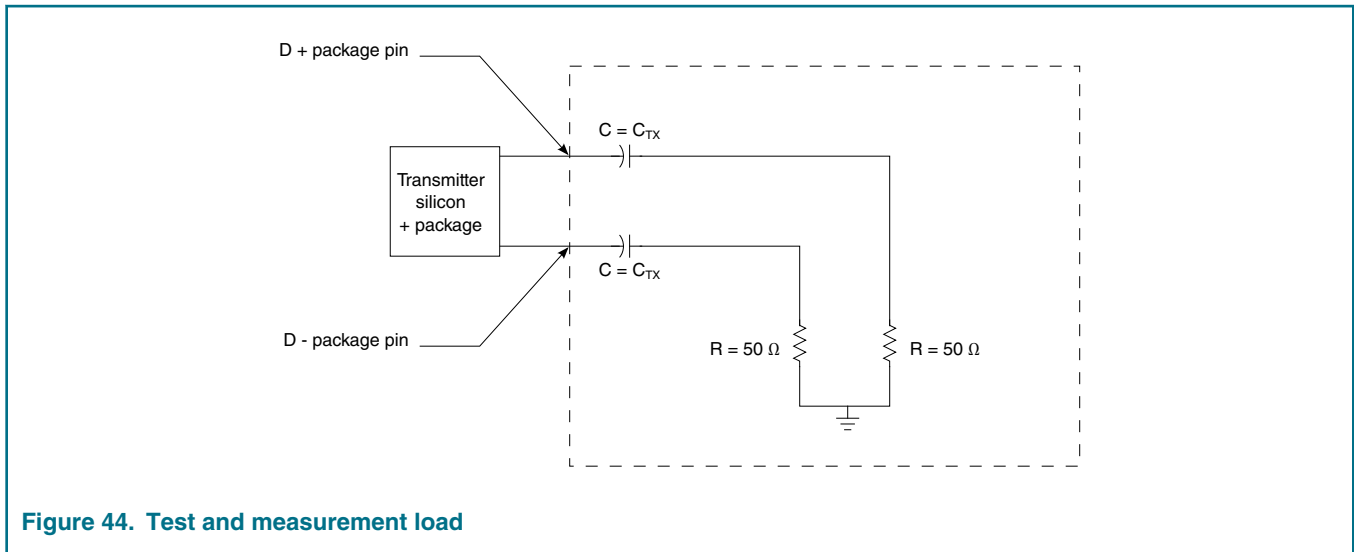

Figure 44. Test and measurement load
5. See Figure 44. on page 133.
<p>1. Each UI is 200 ps ± 300 ppm. UI does not account for spread-spectrum clock dictated variations.</p> <p>2. The maximum transmitter jitter can be derived as $T_{TX-MAX-JITTER} = 1 - T_{TX-EYE} = 0.25$ UI. Does not include spread-spectrum or REFCLK jitter. Includes devices random jitter at 10^{-12}.</p> <p>3. Specified at the measurement point into a timing and voltage test load and measured over any 250 consecutive transmitter Uis.</p> <p>4. A $T_{TX-EYE} - 0.75$ UI provides for a total sum of deterministic and random jitter budget of $T_{TX-JITTER-MAX} = 0.25$ UI for the transmitter collected over any 250 consecutive transmitter Uis. The $T_{TX-EYE-MEDIAN-to-MAX-JITTER}$ median is less than half of the total transmitter budget collected over any 250 consecutive transmitter Uis. It must be noted that the median is not the same as the mean. The jitter median describes the point in time where the number of jitter points on either side is approximately equal as opposed to the averaged time value.</p> <p>5. See Figure 44, on page 133.</p> <p>6. Reference input clock RMS jitter (< 1.5 MHz) at pin < 1 ps.</p> <p>7. All transmitters must be AC coupled. The AC coupling is required either within the media or within the transmitting component itself.</p> <p>8. The chip's SerDes transmitter does not have C_{TX} built-in. An external AC coupling capacitor is required.</p>